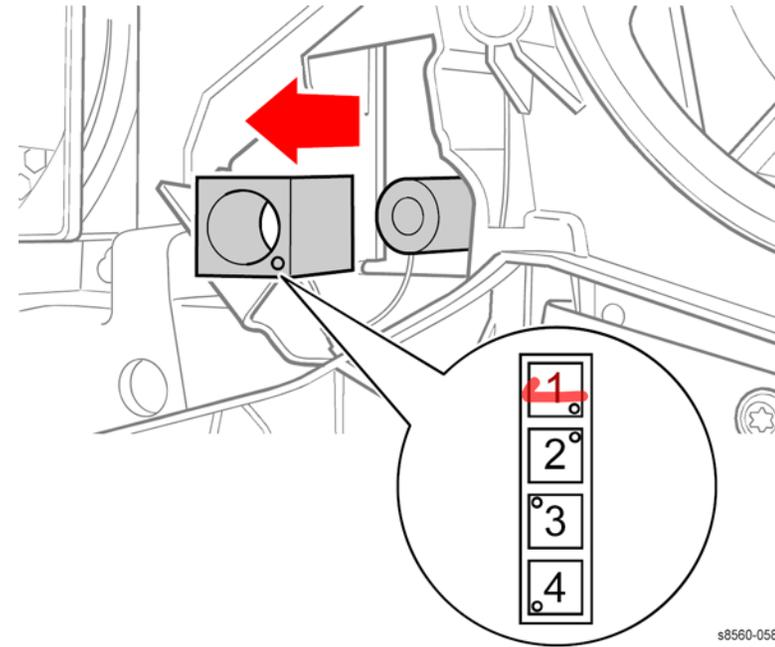

Figure 7 Removing the Roll Block
7. Install the Roll Block on the left end of the Printhead Shaft. Orient the Roll Block as shown on the label attached to the frame (Figure 7). The Red check mark indicates the correct orientation.